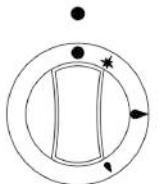

Fig 1
- To completely turn off the burners (main and pilot), turn the corresponding knob clockwise to the closed position (Fig. 1).